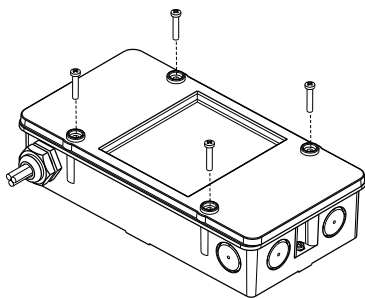

Fig. 7
1. Open the housing (Fig. 7).
6. Close the housing with the screws provided (Fig. 7).